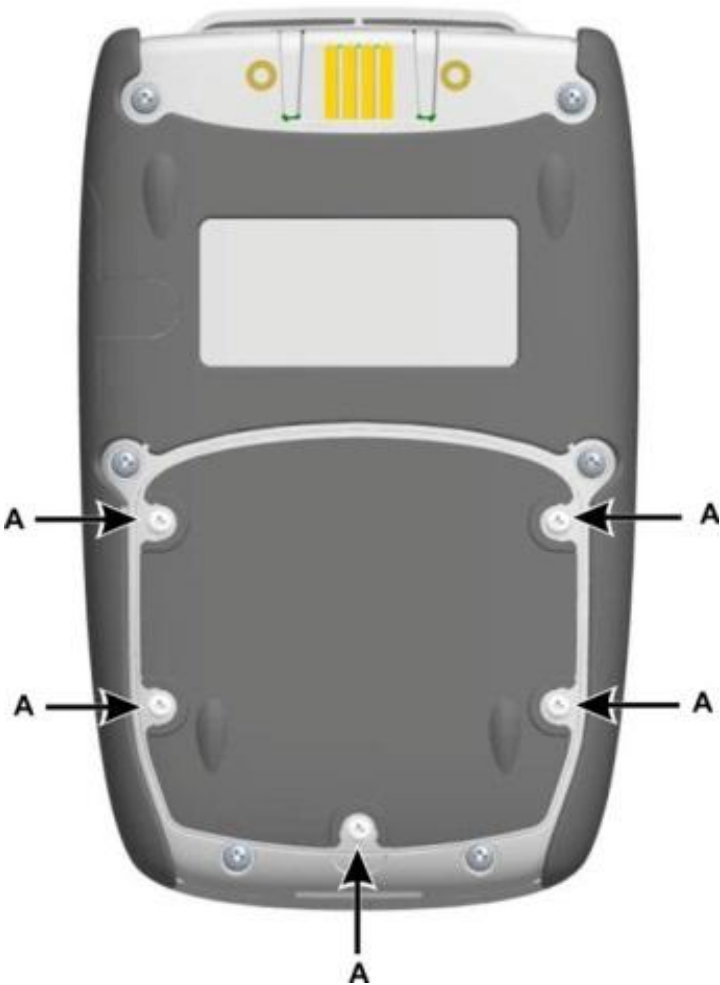

Figure 1-1
1. Remove the five Pozidriv screws (**A**) (Ref: Figure 1-1)